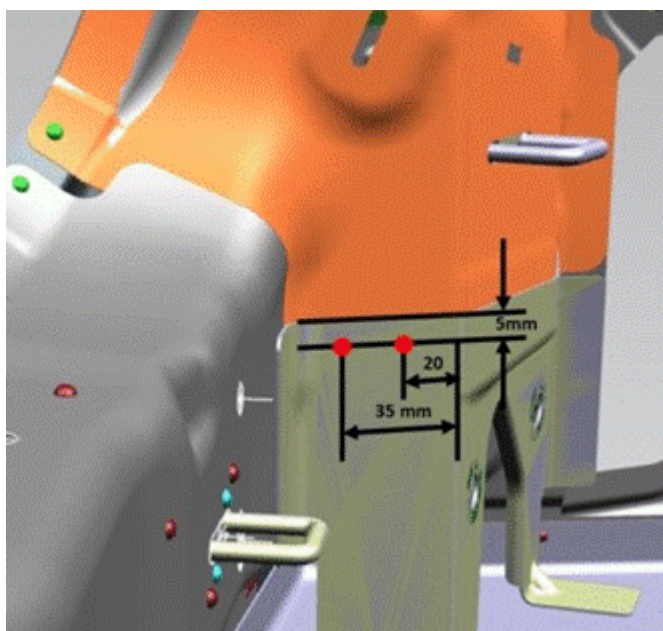

Figure 4. Location of 6.5 mm holes to be drilled in the outer support.
- Using the forward fold and the upper edge of the lower support bracket as a guide measure and mark 20 mm and 35 mm rearward from the fold and 5 mm downward from the upper edge of the lower support bracket on the left corner. In these two spots shown in the measuring schematic in Figure 4 drill two 6.5 mm holes through both panels as located by the red dots. Make sure to completely de-burr these drill holes.